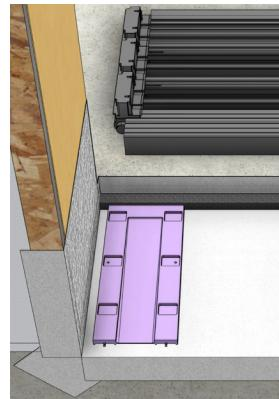

Fig 7
- Drill pilot holes through two of the recessed pockets in the shims and into the rough opening (fig 7). Try to place the screws towards the sides of the shims while ensuring the screw heads fit fully into the recessed pockets.